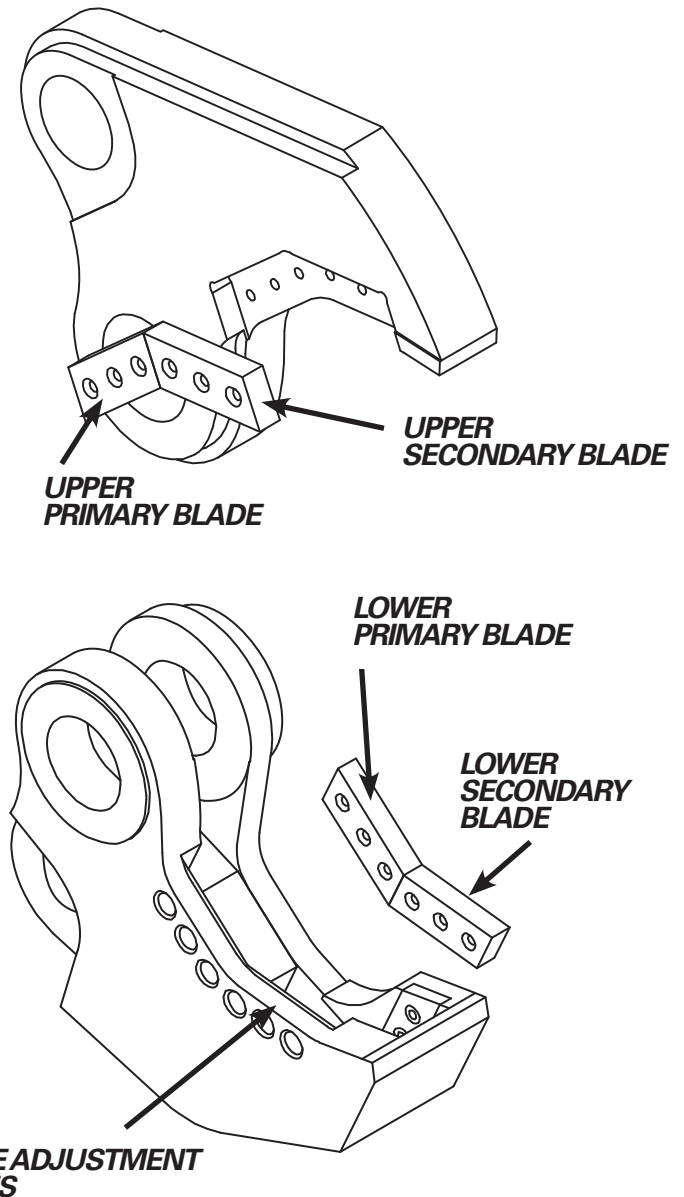

FIGURE 7-37
3. **For parallelogram blades:** The first and third times the blades are rotated, each blade should be turned end for end and reinstalled in the same blade seat. The second time the blades are rotated, the blades will change positions. The upper primary blade and lower secondary blade should swap positions and the upper secondary blade and the lower primary blade should swap positions (Figure 7-37). **For rectangular blades (UP 90 only):** The first and third times the blades are rotated, each blade should be turned end for end and reinstalled in the same blade seat. The second time the blades are rotated, each blade should be flipped over.